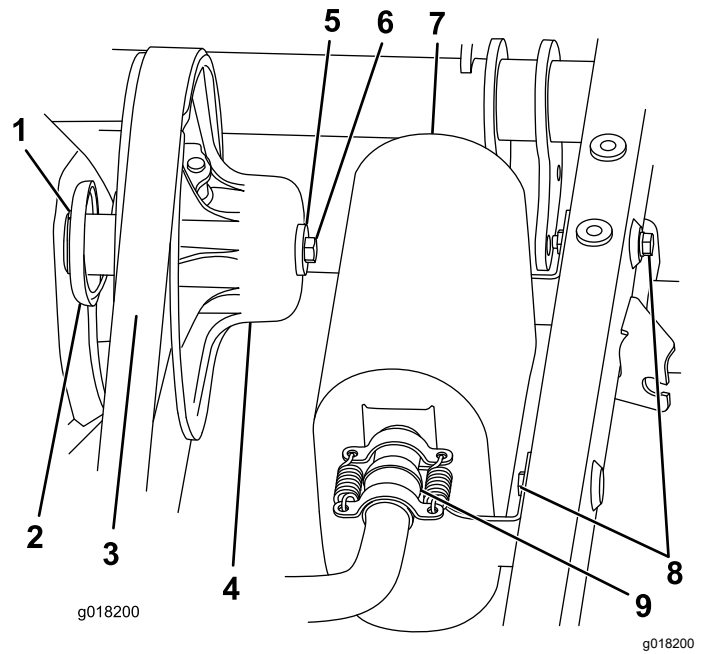

Figure 9
3. Disconnect the 2 springs securing the muffler to the exhaust system, remove the 2 fasteners securing the muffler to the frame, and remove the muffler (Figure 9).
4. Remove the belt from the secondary clutch (Figure 9).
5. Remove the bolt and step washer securing the clutch and pull the clutch off the transaxle (Figure 9).